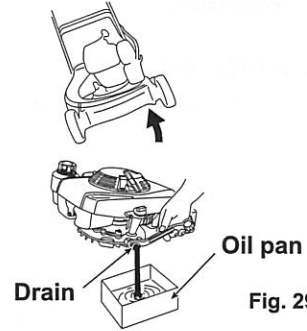

Fig. 29
- Drain the engine oil from the drain port. (See Fig. 29)